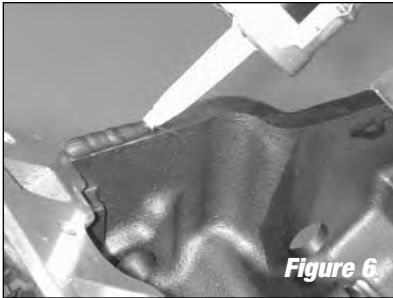

Figure 6
2. With the Edelbrock intake manifold, you must use RTV High Temp silicone sealer instead of end seal gaskets. Apply a 1/4" thick bead of sealant across each end seal surface **(See Figure 6)**.